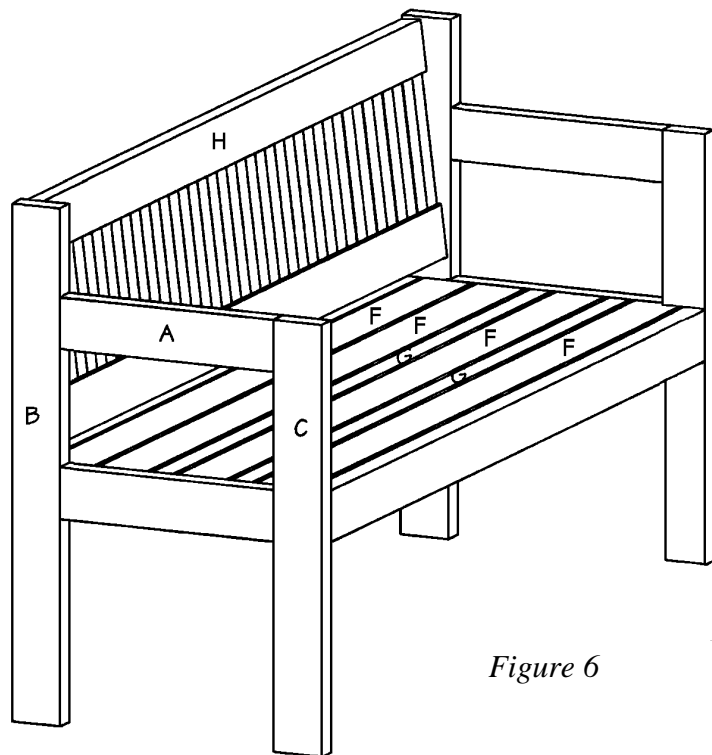

Figure 6
- The sofa seat is comprised of two different widths of wood that are alternated. Cut four wide slats (F) from 1 x 4 pine, each measuring 59 inches.
- Cut two narrow slats (G) from 1 x 2 pine, each measuring 59 inches.
- Begin by placing a wide slat (F) over the seat supports (E) on the front of the sofa. Then place a narrow slat (G) next to it. Continue alternating the wide and narrow slats, ending with two wide slats (F) at the back of the sofa, as shown in *Figure 6*. Adjust the spacing so that the slats are approximately $\frac{3}{8}$ -inch apart. Nail through each of the slats (F and
G) into the seat supports (E), securing each of the slats to one of the seat supports (E). Use two 1-1/2"-long nails on each joint.
6. It is now time to fit the back assembly between the two sides. To make the sofa more comfortable, the back assembly is tilted at an angle—out at the top and in at the bottom. The tilt angle is determined by the width of the 2 x 4 on the side assemblies. The lower edge of the back is fitted flush with the inside edge of the long vertical sides (B); the upper edge of the back is fitted flush with the outer edge of the long vertical sides (B), as shown in *Figure 6*. When you have the back fitted perfectly, secure the assembly with bar clamps. Screw through the long vertical sides (B) into the ends of the horizontal backs (H), using two 3-1/2" nails on each joint.